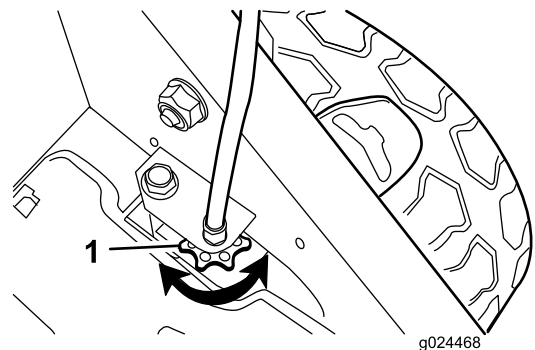

Figure 27
- If the wheels do not spin when you engage the self-propel-drive bar, the traction belt is too loose. Rotate the wheel-drive-control knob (Figure 27) clockwise 1 turn and repeat steps 4 through 6.
- If the wheels spin before you fully engage the self-propel-drive bar, the traction belt is too tight. Rotate the wheel-drive-control knob (Figure 27) counterclockwise 1 turn and repeat steps 4 through 6.